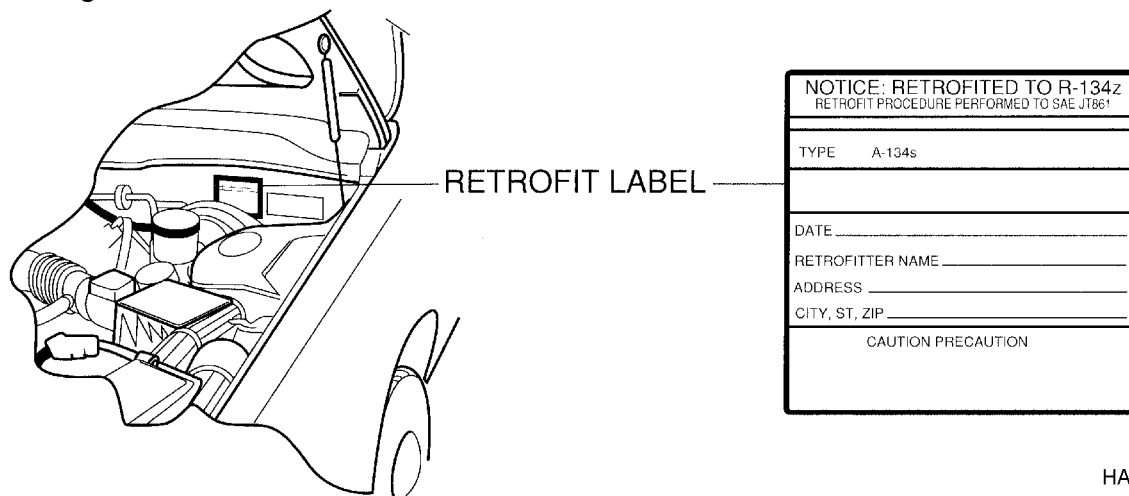

Figure 6
46. Affix the caution label to the engine room wall or suitable (permanent under-hood body panel) visible location as shown in Figure 6. Make sure the surface is clean before installing the label.